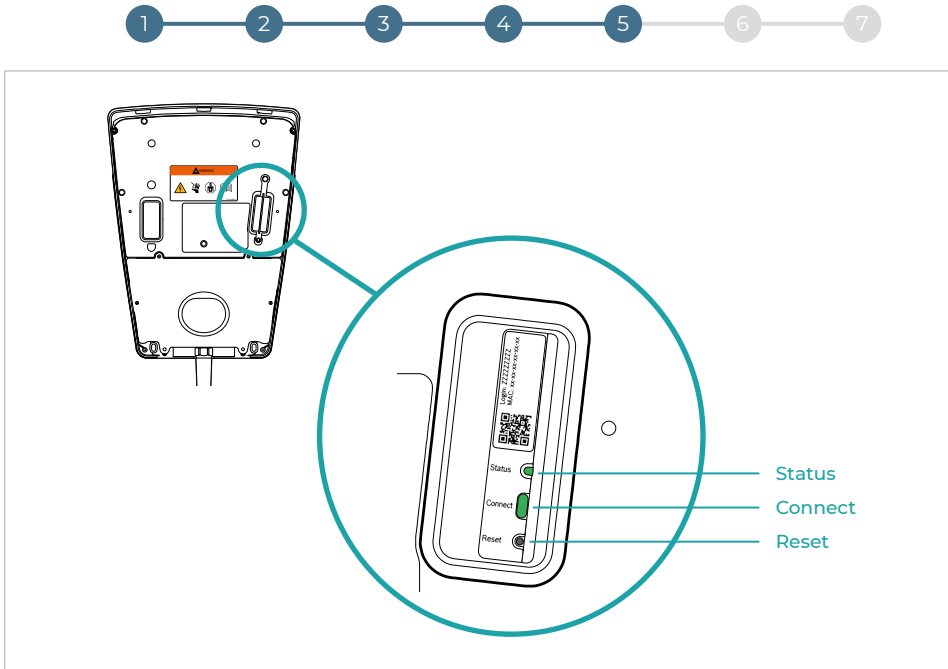

Fig. 8
2. Wait until the charging system is ready for operation (Status LED of the charging system lights up blue, Status LED of the communication module (Fig. 8) lights up yellow, and Hotspot mode is active).
The host name consists of a defined device designation ("HDM-SMART-CONNECT-") and the last six characters of the MAC address on the communication module (**Fig. 8**).